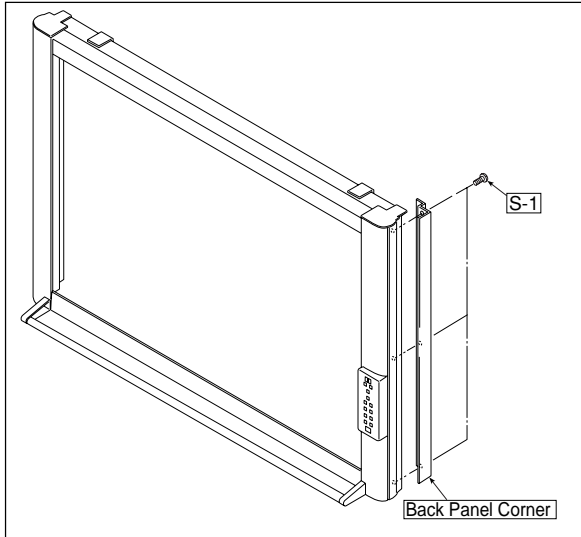

Fig. 1
1) Remove the Back Panel. (See Figs. 1 and 2.)
1. Remove the “S-1” screw shown in Fig. 1 and then remove the Back Panel Corner.